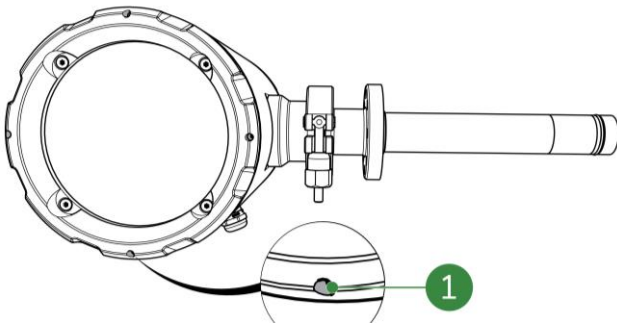

Figure 6-4: Frontal lid socket head screws
2. Loosen the 4 socket head screws (Figure 6-4, pos. 1) on the outer side of the frontal lid.
9. Tighten the 4 socket head screws (Figure 6-4, pos. 1) on the outer side of the frontal lid.